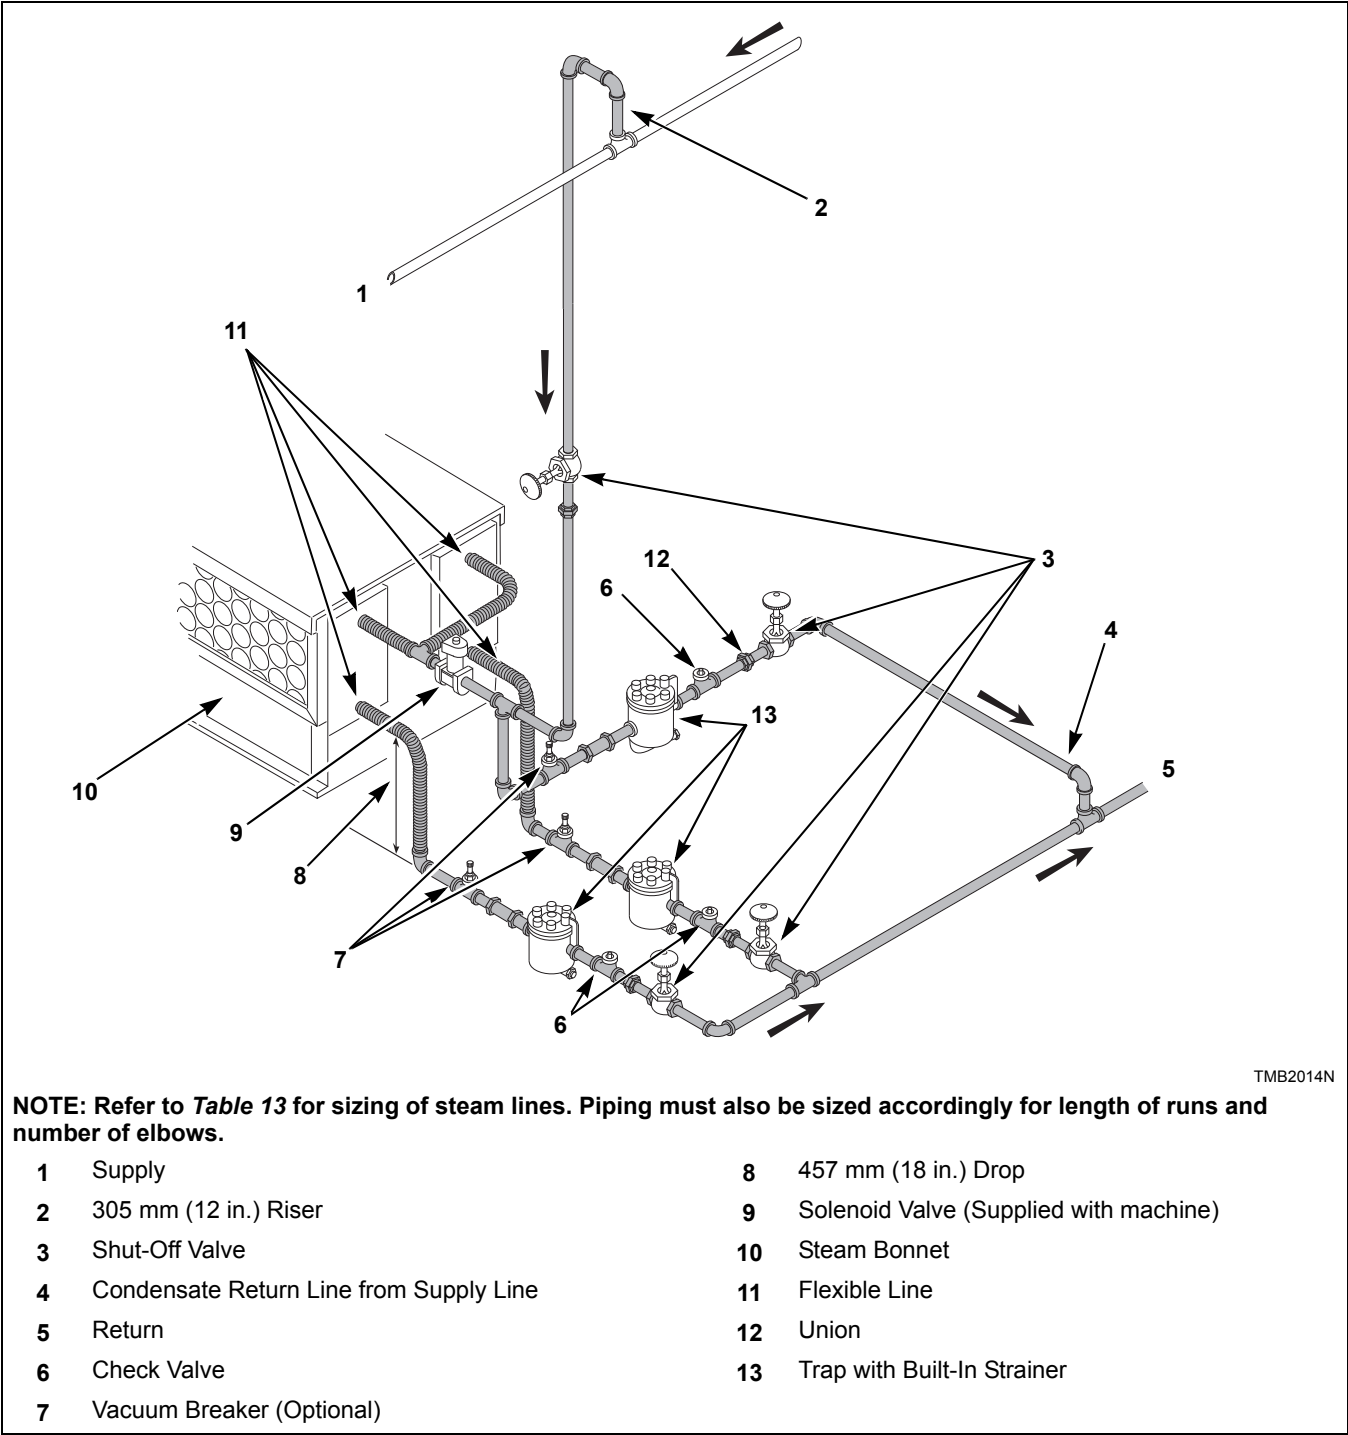
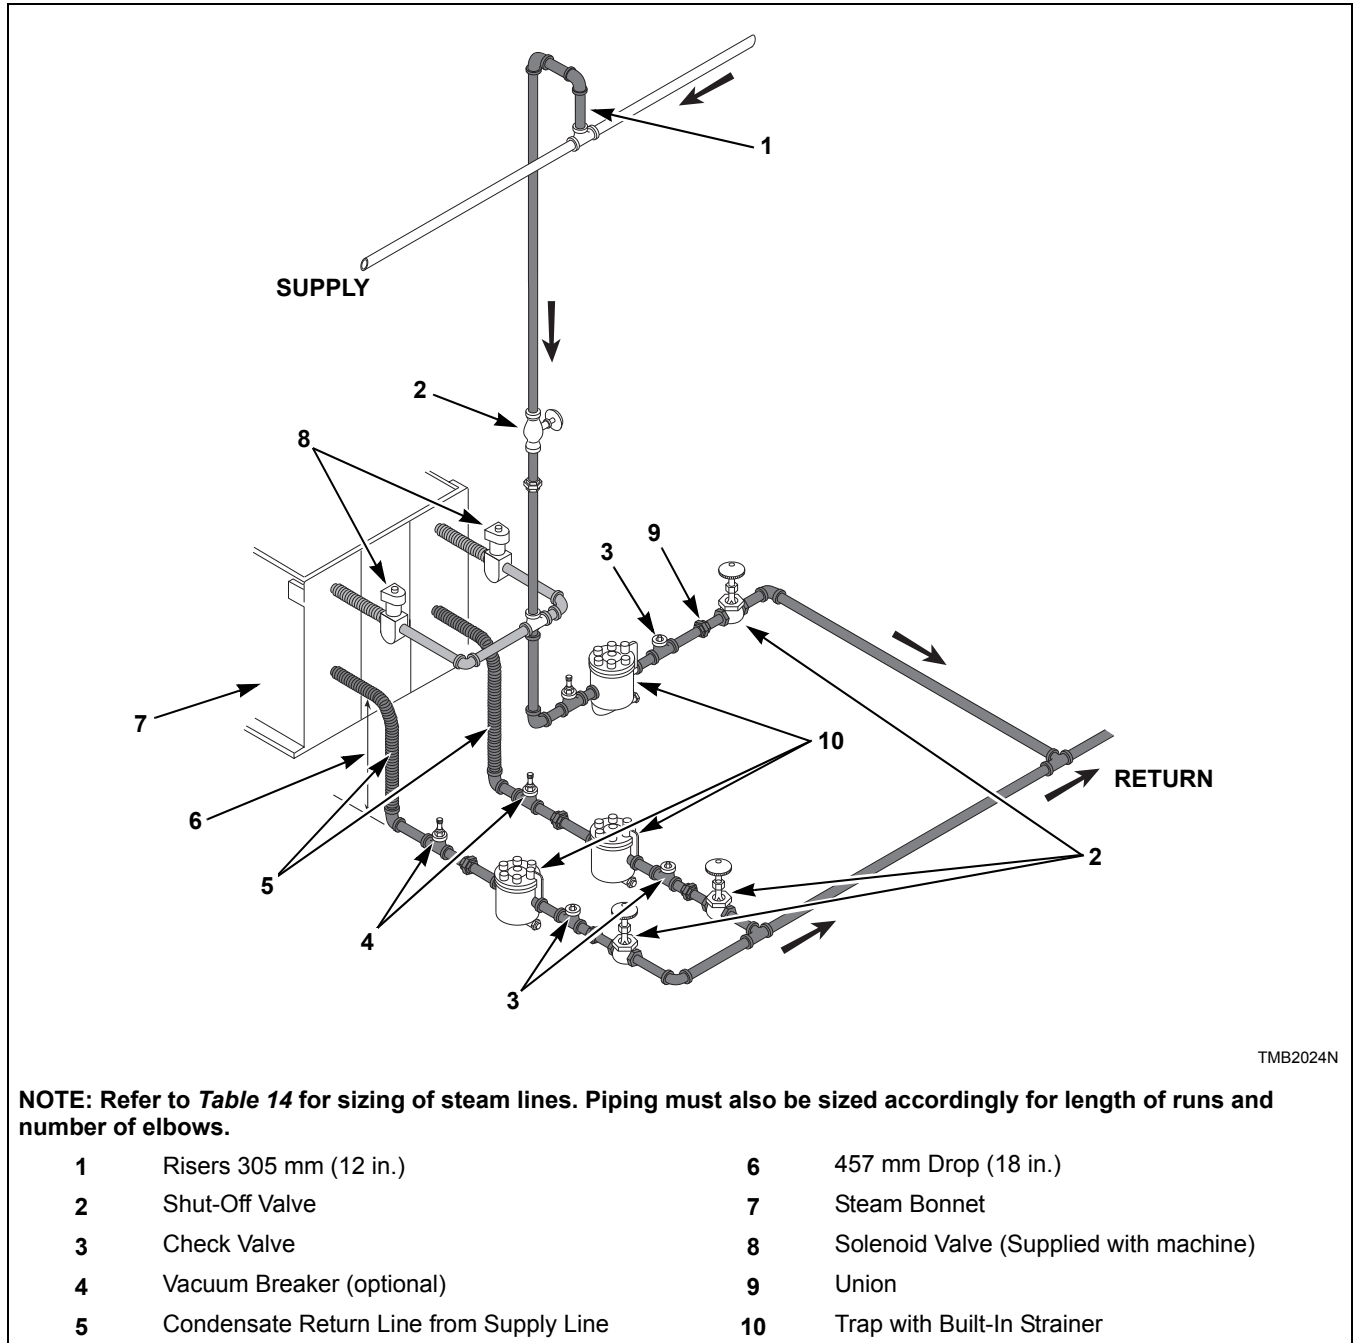

Figure 19
Figure 20
- Refer to *Figure 19* and *Figure 20* for proper steam pipe configurations.
The steam trap must be installed and the coil outlet connections must be connected to the condensate return lines. The following steps outline the procedure for installing the steam trap and connecting the condensate return lines. Refer to *Figure 19* and *Figure 20* for typical installations.